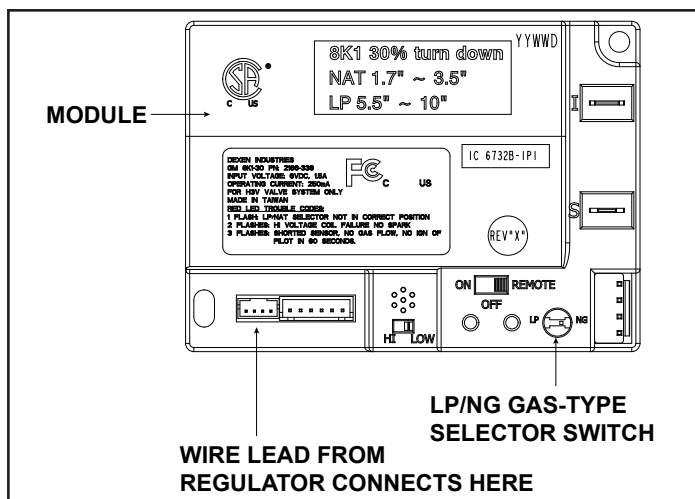

Figure 3.6 Control Module
1. The control module has an ON/OFF/REMOTE selector switch that must be set. See Figure 3.6.
2. If using the wired switch in the control cavity with the module in REMOTE mode, the flame output can be adjusted with the HI/LO selector switch on the module. See Figure 3.6. Note that the flame HI/LO selector switch will become inactive once an optional remote control (RC200/RC300) is programmed to the control module. Note that the control module will always ignite the stove on HI and remain so for the initial 10 seconds of operation. If the HI/LO is switched to the LO position, the flame output will automatically drop to the lowest setting after the flame has been established for 10 sec. After this 10 second period, the flame can be adjusted from HI to LO with the switch.
- Locate the module selector switch. (See Figure 3.6).
- Wait five (5) minutes to allow possible accumulated gas to clear.